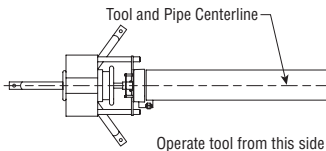

Figure 2 - Tracking Angle
- c. Position the centerline of the pipe stand along the centerline of the tool. Refer to Figure 2 above.